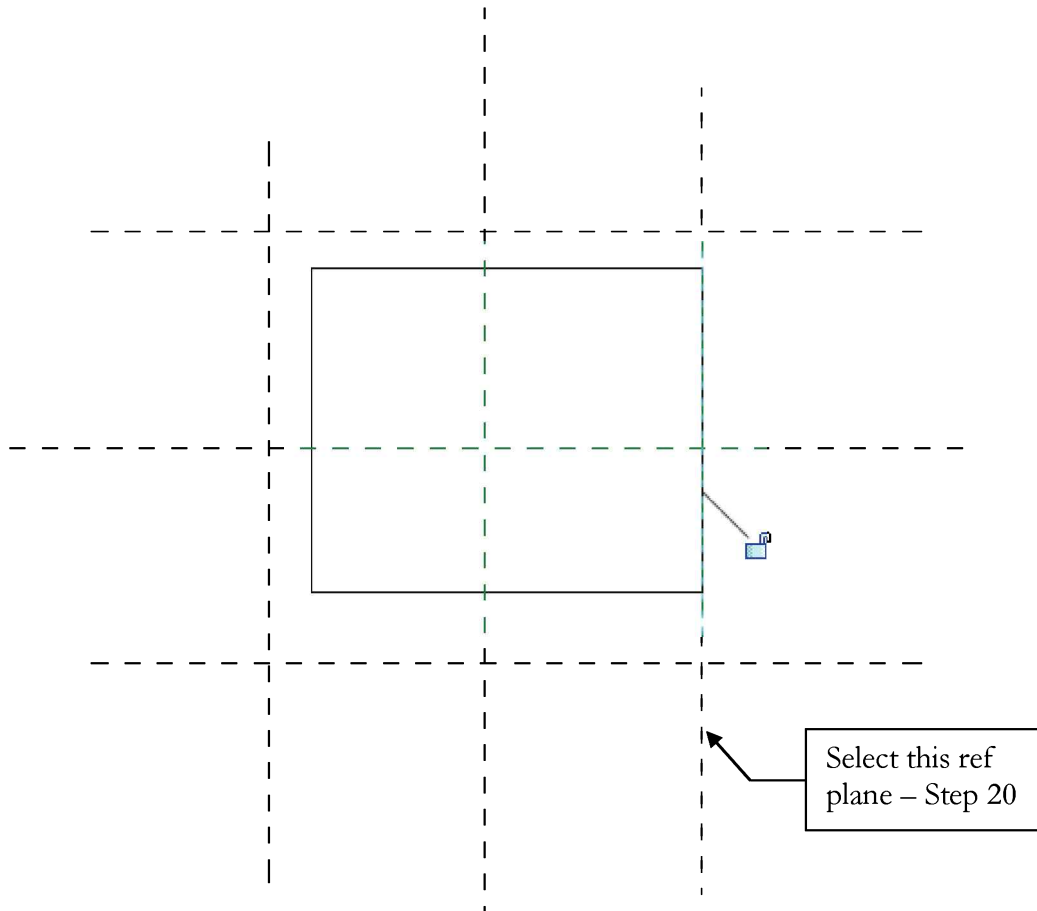

FIGURE 15-2.12 Aligning 3D geometry to reference planes
20. Select the vertical *Reference Plane* on the right (Figure 15-2.12).
The right side of the box should now be aligned with the *Reference Plane* (Figure 15-2.12). If the *Reference Plane* moved rather than the edge of the box, click **Undo**. When using the *Align* tool, the element that does not move is selected first.
- Figure 15-2.12 shows the icon in its initial position, unlocked.